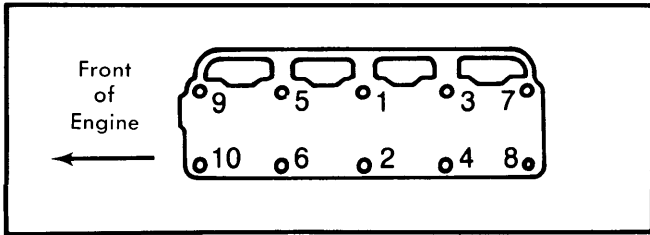

Fig. 1 Cylinder Head Tightening Sequence
2) Position cylinder head gasket on block using dowel pins as a guide. Carefully lower head into place seating head on dowel pins. Coat head bolt heads and threads with sealing compound. Install head bolts and tighten in proper sequence shown in *Fig. 1.*